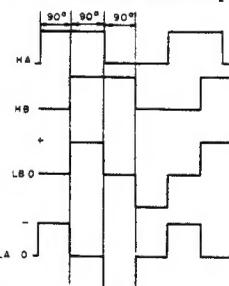

Fig. 5-8 Drive circuit waveforms
- The position sensing signal produced by the Hall elements are each output to the block diagram position signal synthesizing circuit, and their waveforms are shaped as shown in Fig. 5-8.
- The staircase waves are each input into the block diagram 4-phase drive circuit, and as shown in Fig. 5-8, LA and LB alternate back and forth in a 90° duty cycle (voltage) to turn the motor.